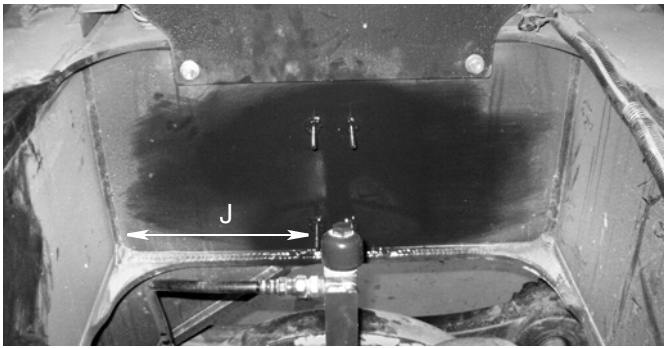
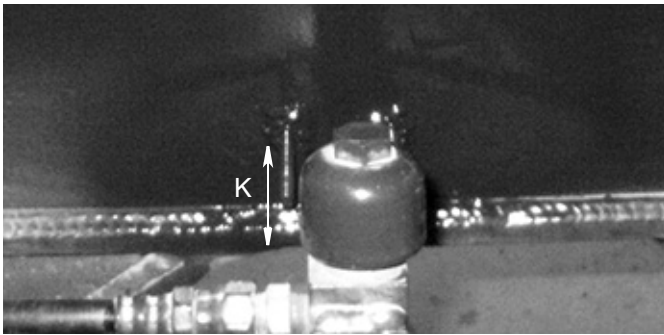

FIG. 28
FIG. 29
5. For the Rear Secondary MSP Divider Valve, the weld studs are installed on the inside of the dump bed rear frame bracing as shown in FIG. 28- FIG. 29.